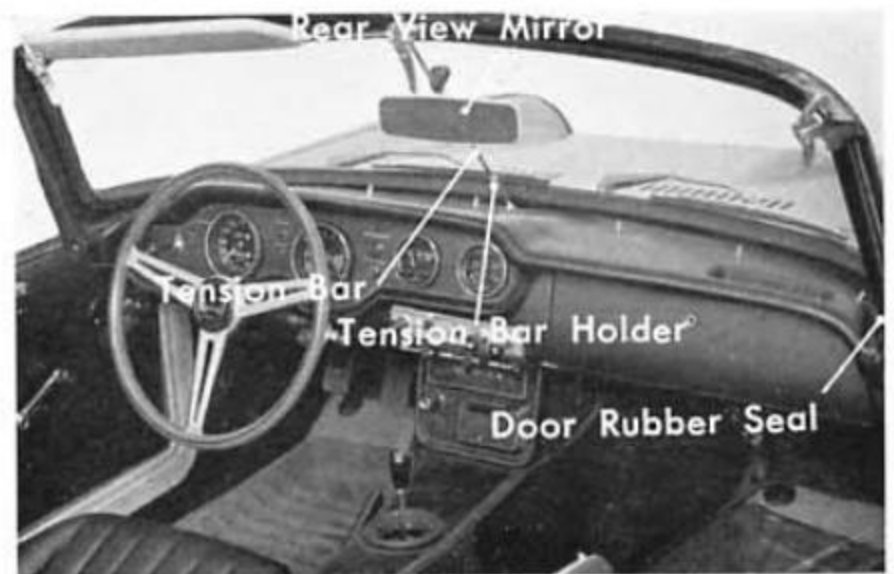

Fig. 17D-6
14. Remove the screws and disassemble door rubber seal upper clamping plate and front windshield side drip from the windshield frame (Fig. 17D-7).